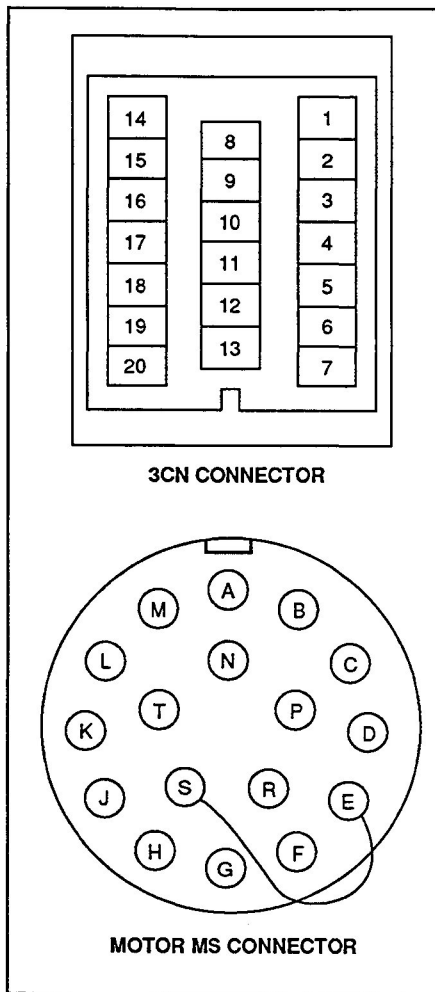

Figure 3-16. 3CN and Encoder (Motor MS) Connector Pin Configurations.
6. For 3CN and Encoder (Motor MS) Connector Pin Configurations (Figure 3-16), wire the connection pins S and E per Figure 3-16. Note that the sensing terminal for the encoder (P/S) needs 5 volts D-C for proper operation.